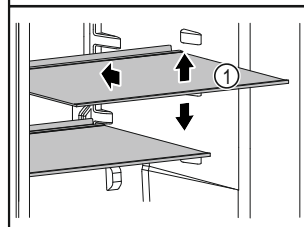

Fig. 9 Example illustration
- ☐ If storage surfaces Fig. 9 (1) are movable, adjust them according to height.